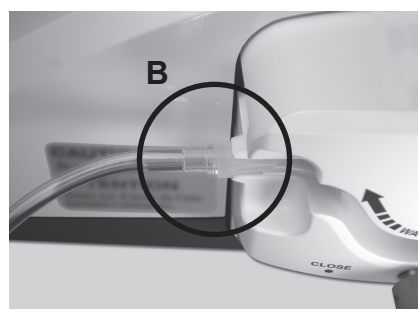

Fig.8
- 3) Insert the Irrigation Tube along the guide and fit it into B in Fig. 8.